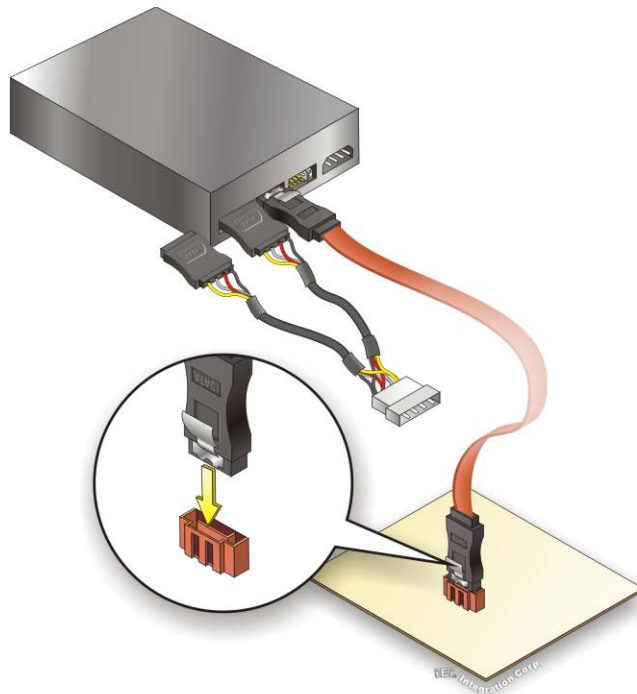

Figure 4-12: SATA Power Drive Connection
- Step 3:** **Connect the cable to the SATA disk.** Connect the connector on the other end of the cable to the connector at the back of the SATA drive. See **Figure 4-12**.
- Step 4:** **Connect the SATA power cable.** Connect the SATA power connector to the back of the SATA drive. See **Figure 4-12**.